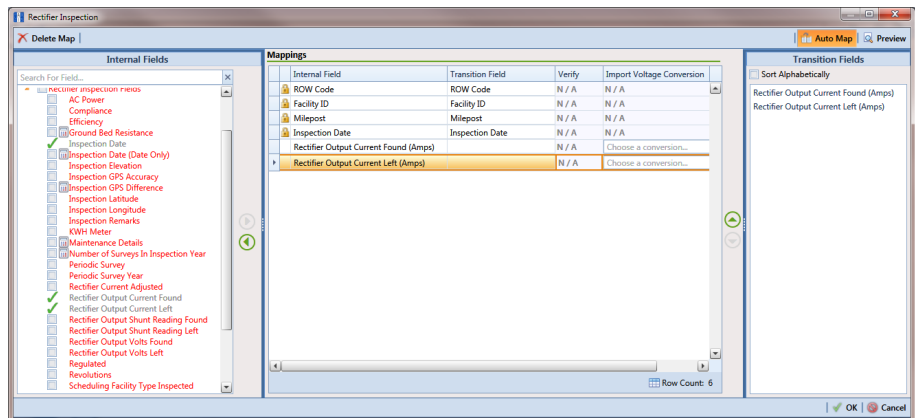

Figure 10-52. Field Mappings
- a Click  **Edit** in the *Maps* group box to open a field mapping window (Figure 10-52).
NOTE: Fields in the *Mappings* panel with a lock icon  are required fields for mapping, such as *ROW Code*, *Milepost*, *Facility ID*, and *Inspection Date* shown in the following example (Figure 10-52, page 539).